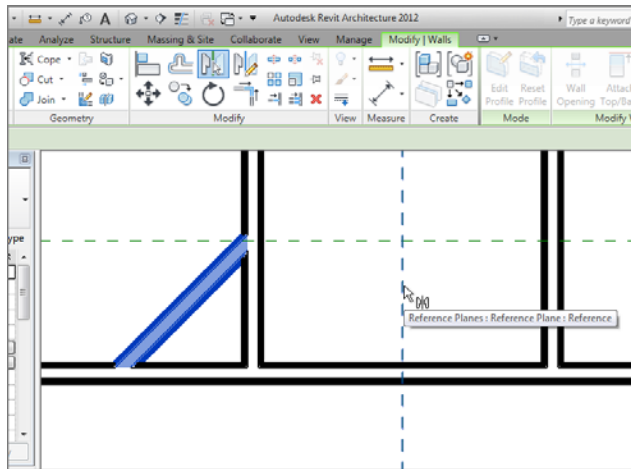

FIGURE 2.43: Using the Mirror command in conjunction with a reference plane is a good example of thinking ahead.
2. Pick Mirror Pick Axis from the Modify | Walls tab as shown in Figure 2.43.